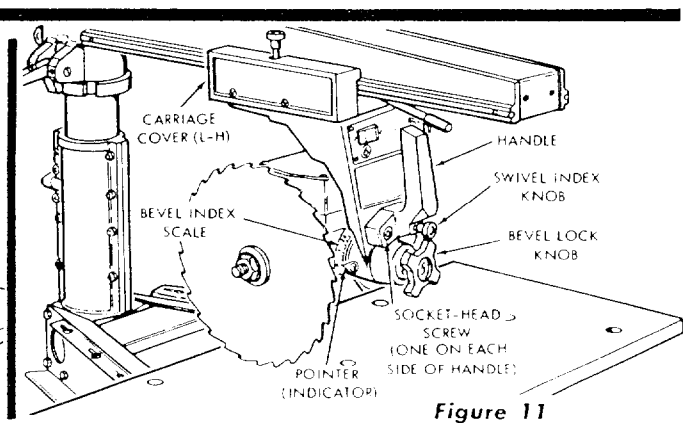

Figure 11
- a. Loosen the bevel lock knob just slightly and with a 5/16-inch Allen wrench loosen the two socket-head screws that secure the handle to the yoke. (See figure 11.) A screw is located at each side of the swivel index knob.